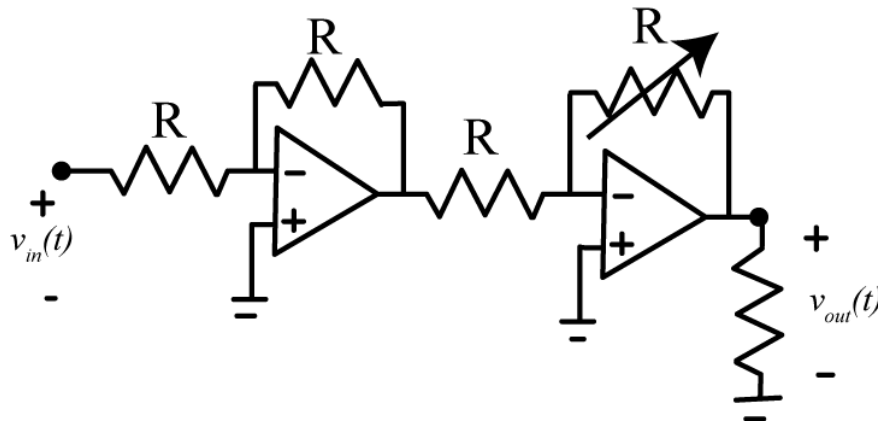

Figure 2. Prefilter (gain) circuit.
1) Build the prefilter, shown in Figure 2. We have included a load resistor for measuring the output. The input to this circuit should be the signal generator, and the output should be the voltage across the load resistor. Set the input to a 50 Hz square wave with a peak to peak value of 2.0 volts and zero offset. Start the oscilloscope and set the input on channel 1 to **A1-Diff** and use this to measure the input signal (never trust a signal generator) and the input on channel 2 to **A2-Diff**, and use this to measure the voltage drop across the load resistor. Set channel 1 to **500 m volt/div** and channel 2 to **2 volts/div** (initially). Set the **Time/Div** to 2.00 ms and the **Mode** to **Y-T**. The coupling should be set to **DC** for both channels. As the variable resistor is changed, you should be able to get an amplitude from 0 to approximately 4 volts (8 volts peak to peak) . Before you go on, set the variable resistor so the output is that same as the input, but *be sure the change the scale on channel 2 to 500 mV/division before you do this*, so the scale is the same for channel 1 and channel 2. Once this is working, disconnect the load resistor and function generator and disconnect the power to the circuit.